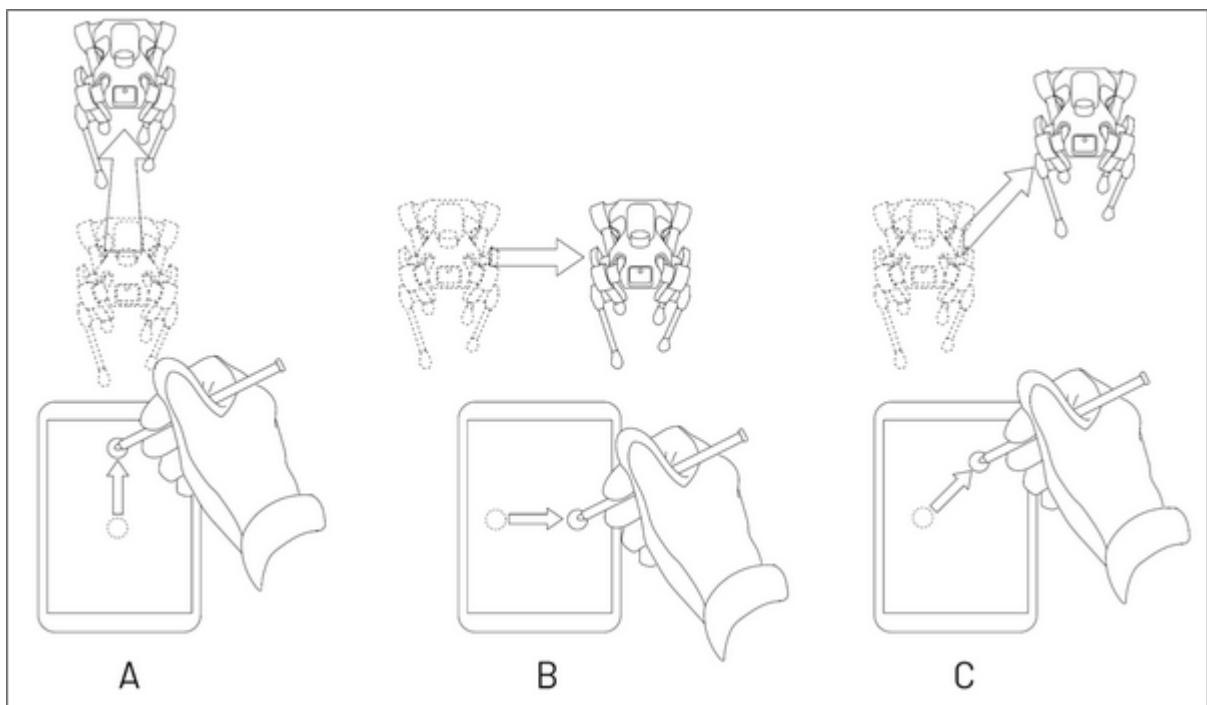

Figure 58 - Steering the Robot in the transition mode
- Forward: slide upward (A in Figure 58).
- Strafe: slide sideways (B in Figure 58).
- Forward and to the side: slide diagonally (C in Figure 58).